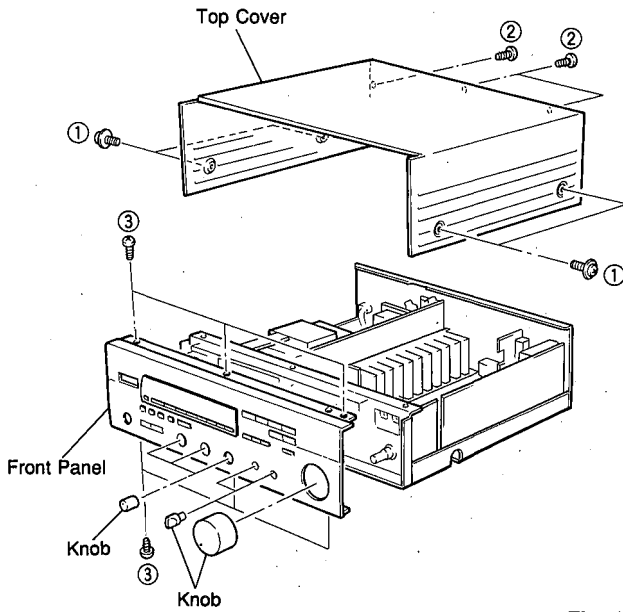

Fig. 1
Remove 4 screws ( ① ) and 3 screws ( ② ) in Fig. 1.
- b. Remove 6 screws ( ③ ) in Fig. 1.